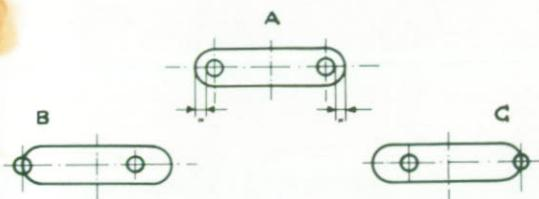

Fig. 25
If the graduated bridge is too long, the stitches will shift towards the left hand side (Fig. 25 b), if it is too short, towards the right hand side (Fig. 25 c).
The needle is equidistant from the needle hole edge both on the left hand and on the right hand side. (See Fig. 25 a).
To adjust, set stitch position button into the centre loosen bolt (82) with hexagonal head and hexagonal nut (8 mm spanner for bolt, 6 mm for nut) and shift needle into correct position as shown in Fig. 25 a. Retighten bolt (82).
Fig. 25 a    83 = Fastening screw for LH - C - RH displacement lever.